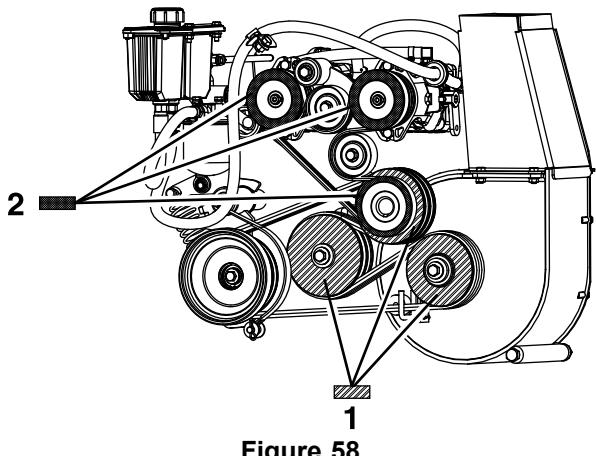

Figure 58
8. Measuring from the blower pulley as a baseline, move the engine and jackshaft until the rear surface of all three pulleys are aligned within 0.8 to 1.6 mm (1/32 inch to 1/16 inch) (Figure 58).
4. Using a straight edge, align each pump pulley with the engine pulley by sliding it along the pump shaft (Figure 58).